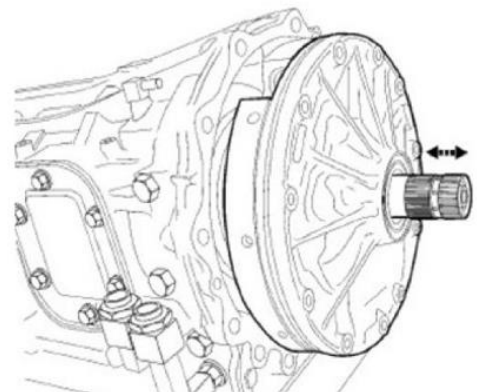

Figure 9 – Oil Pump Assembly on Spline Shaft
40. Install the oil pump with a **NEW** gasket onto the transmission case (Fig. 9).